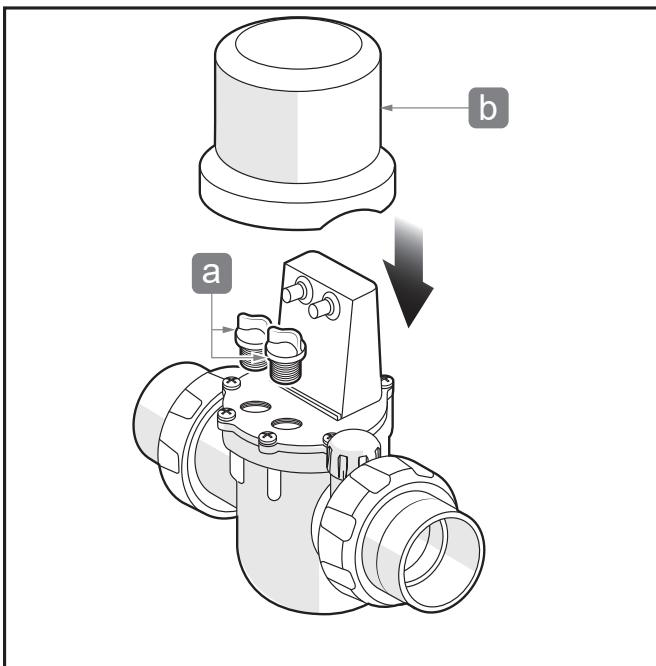

Figure 14. Install Sensor plugs and Cap
10. Install sensor plugs on Jandy TruSense, see Figure 14(a).
11. Install Jandy TruSense top cap, see Figure 14(b).